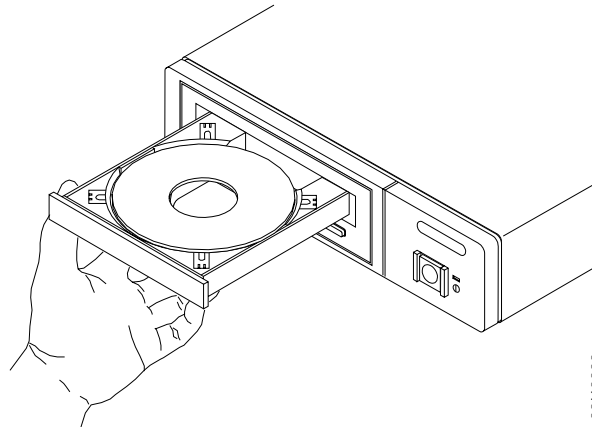

Figure 10. Loading a DVD-RAM Disc
1. Press the load/unload button to eject the disc tray (see Figure 10).